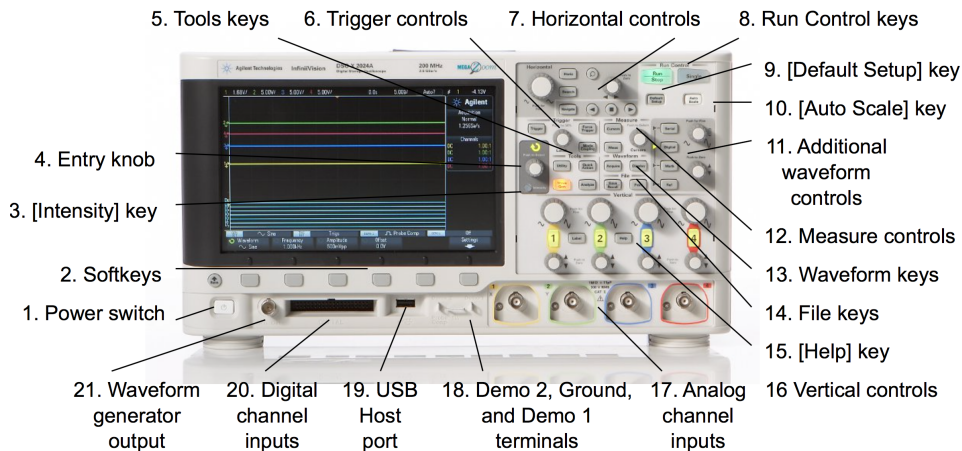

Figure 7: Agilent InfiniiVision 2000 X-Series Oscilloscope Front Panel
- (c) Turn the logic analyzer on. See Figure 7.